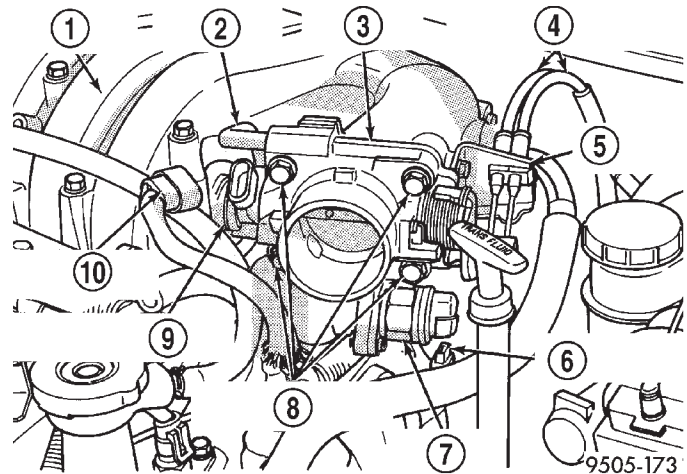

Fig. 65 Throttle Body Attachment To Intake Manifold
(4) Remove the throttle cable and if equipped the speed control cable from the throttle body (Fig. 65). Remove the vacuum hose (Fig. 65) from the throttle body. Remove the wiring harness connectors from AIS motor and the Throttle Position Sensor (Fig. 65) on the throttle body. Then, remove the 4 bolts (Fig. 65) attaching the throttle body to the intake manifold and remove it from intake manifold.
(5) Without removing cables from bracket, remove the throttle and speed control cable mounting bracket (Fig. 65) from the intake manifold.